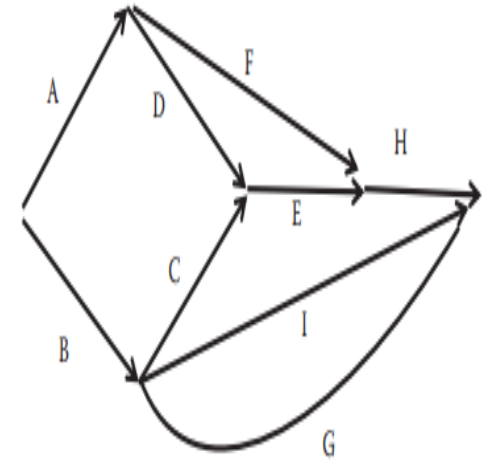

Figure 9.1 PDM network schedule model.
- ❑ The view shown in Figure 9.1 is called a Predecessor Diagram Model (PDM).
- ❑ Figure 9.1 illustrates a sample PDM network.